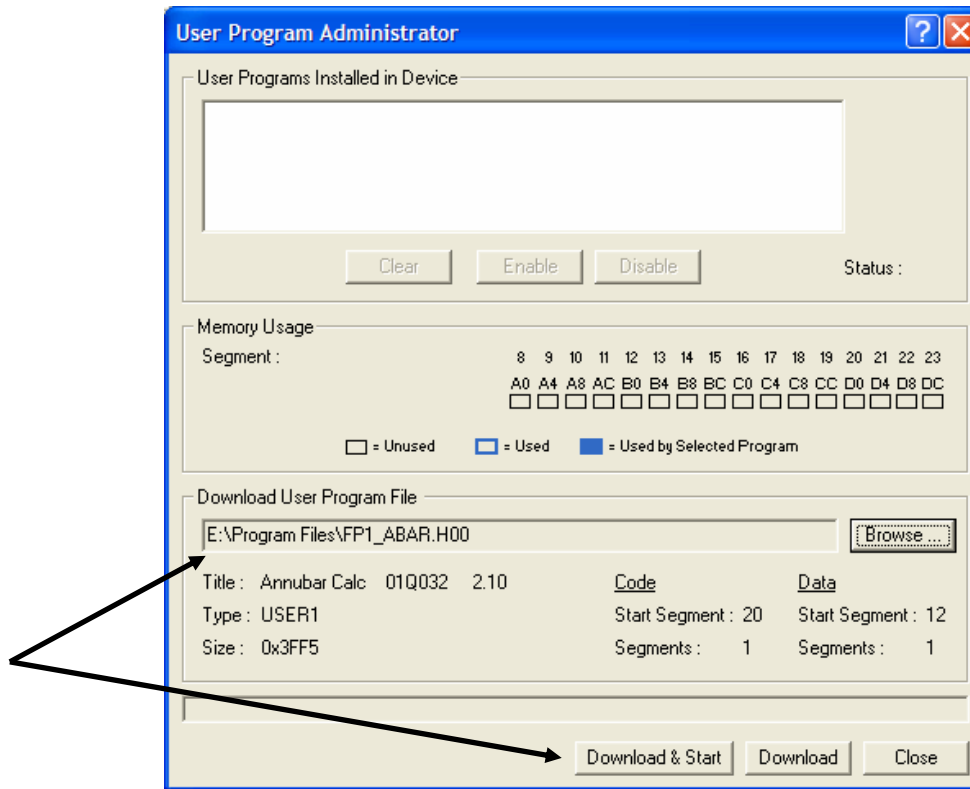

Figure 3. User Program Administrator Screen
Download User Program File	This display-only frame identifies the programs you have selected for download, along with the Code and Data segment information (see Figure 3).
- Click **Open** to select the program file. The User Program Administrator screen displays. As shown in Figure 3, note that the Download User Program File frame identifies the selected program and that the **Download & Start** button is active: